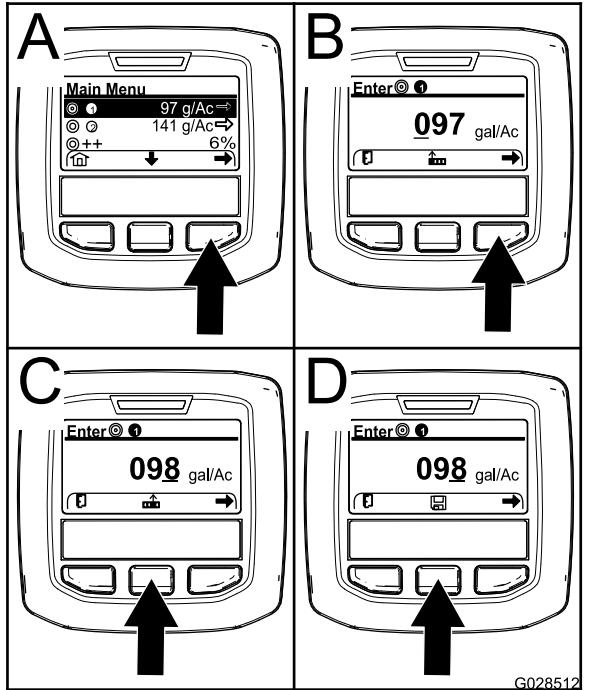

Figure 67
2. If needed, press the center selection button to highlight the application rate for sprayer program 1 (Figure 67).
3. Press the right selection button to select sprayer program 1 (A of Figure 67).
- Press the right selection button (B of Figure 67) to move the cursor to the next numerical position to the right.
- Press the center selection button (C of Figure 67) to increase the numerical value (0 to 9)
**Note:** The Save Icon will appear above the center selection button (D of Figure 67).
6. Press the center selection button (D of Figure 67) to save the programming for application rate.